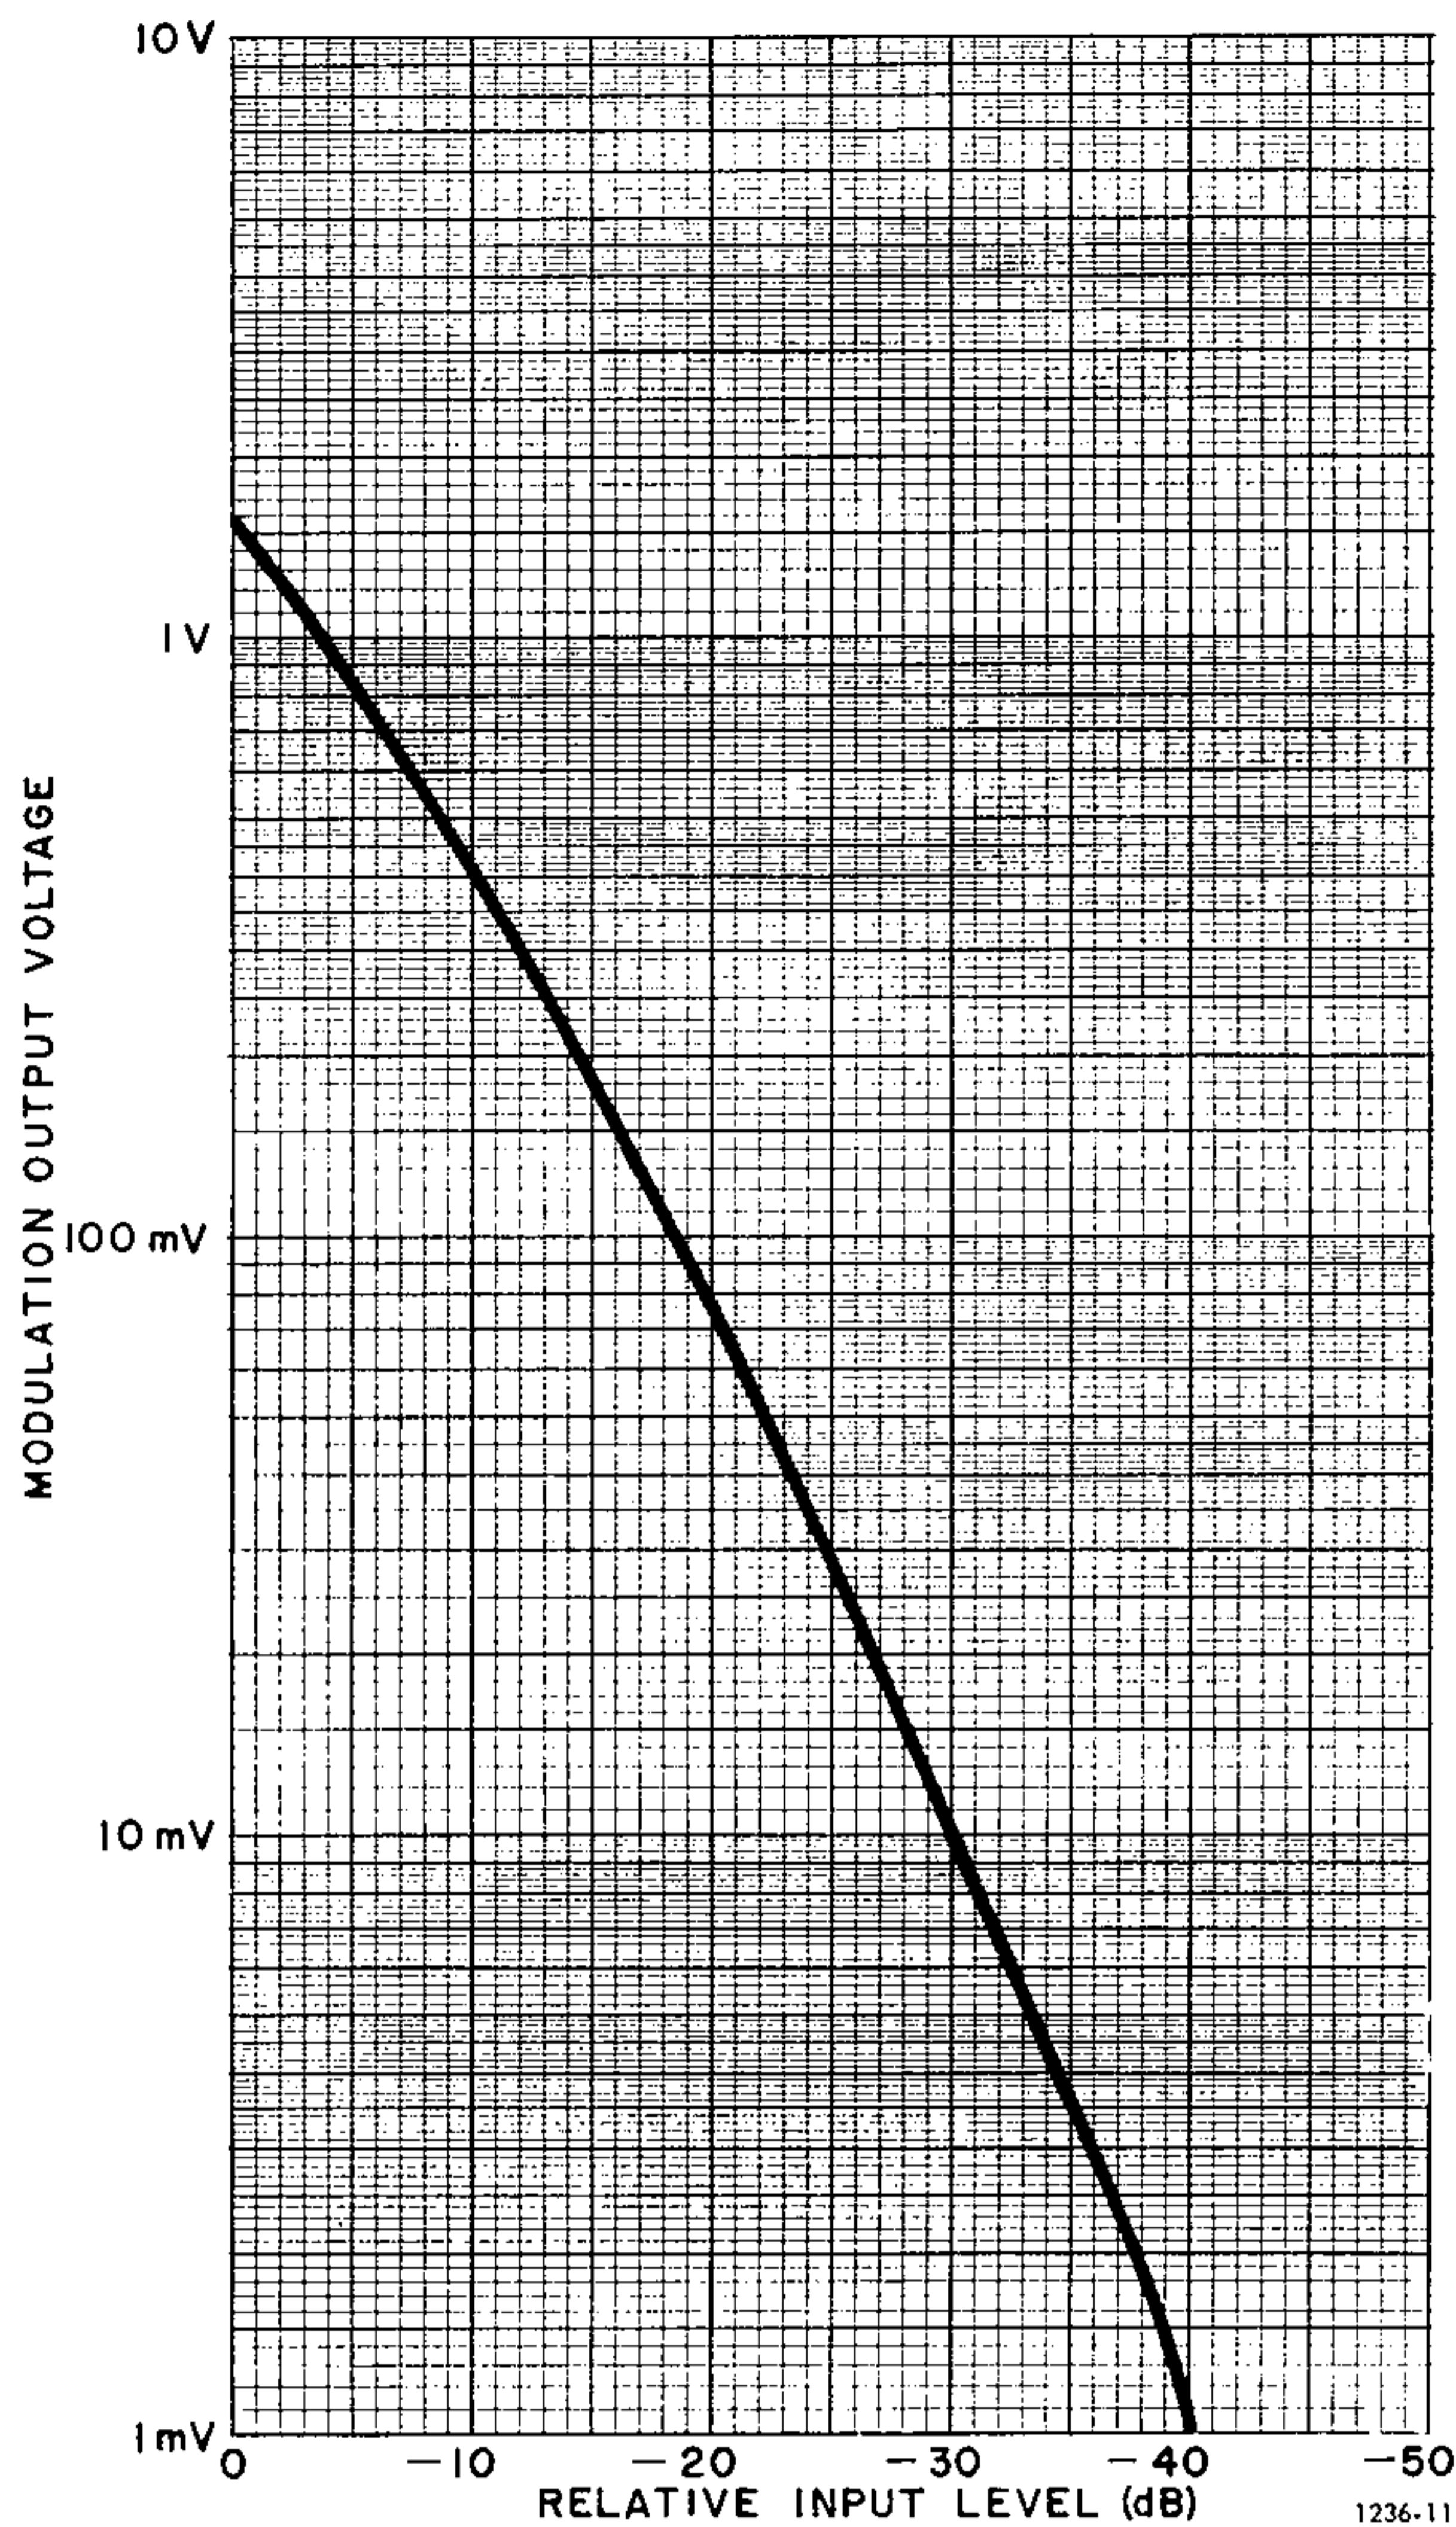

Figure 3-5. Typical modulation output voltage of a 1236 amplifier. Gain control is set at minimum.
- level recording; Figure 3-5 shows the relationship between the modulation-output level (input to the recorder) and the i-f signal level.
The modulation (video output, 1-MHz bandwidth) signal is available at the binding posts at the rear of the instrument. The output resistance is approximately 600 Ω . The open-circuit output level is 1.5 V rms, for a 100% modulated i-f signal and full-scale meter deflection. Figure 3-5 shows the open-circuit output voltage as a function of the relative input-signal level, with the gain control set at minimum.